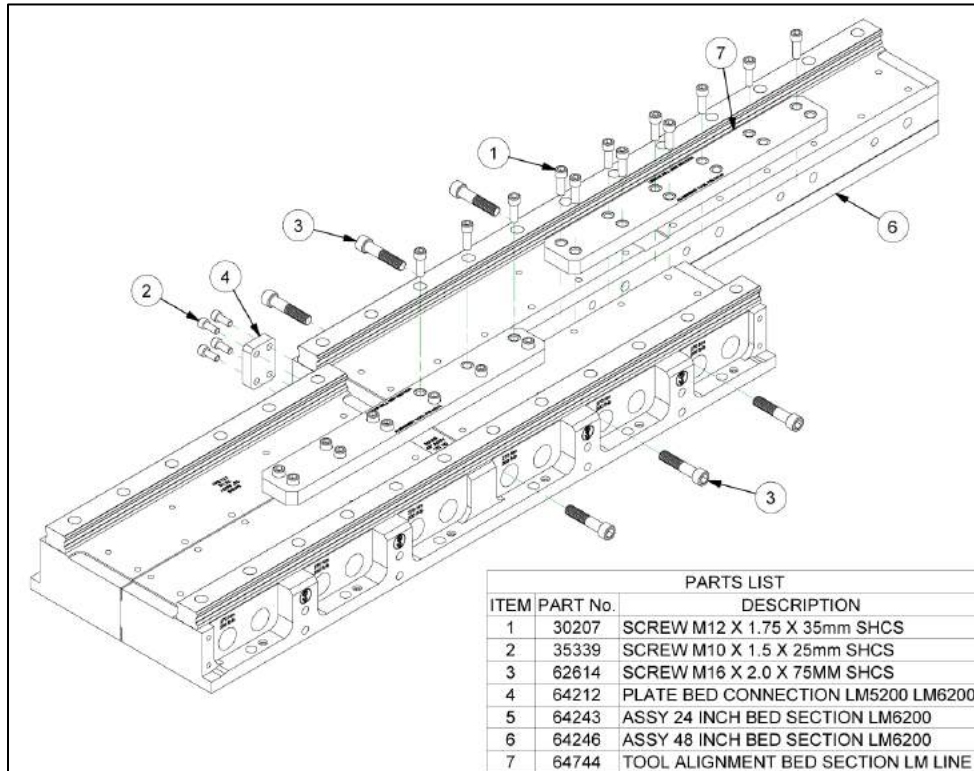

Figure 2
7. Place the next 48 inch section in position and push it against the other sections as shown in Figure 2. Install six M16 fasteners (Item 3) and tighten them to 10 ft-lb.
8. Place the second bed alignment tool (Item 7) on the sections as shown in Figure 2. Tighten the fasteners (Item 1) on the assembled sections first to 65 ft lb. Then tighten the fasteners on the new section to 65 ft-lb.
10. Install a bed connection plate (Item 4) as shown in Figure 2, and tighten the fasteners (Item 2) to 40 ft-lb.